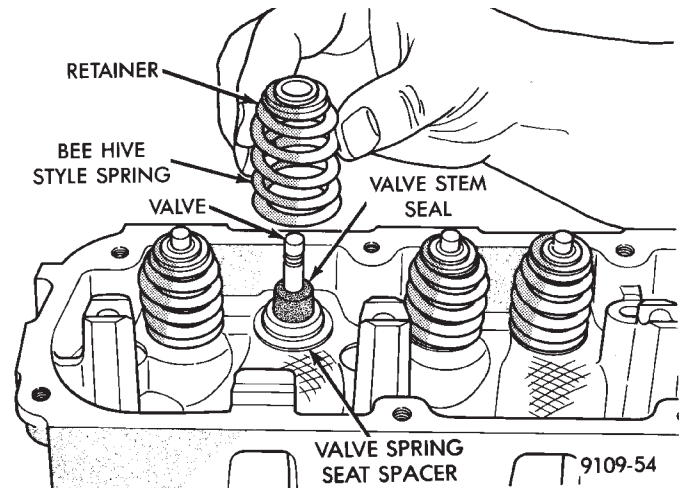

Fig. 30 Installing Valve Seal and Spring
(1) The intake valve stem seals should be pushed firmly and squarely over the valve guide using the valve stem as guide (Fig. 30). **Do Not Force** seal against top of guide. When installing the valve retainer locks, compress the spring **only enough** to install the locks.